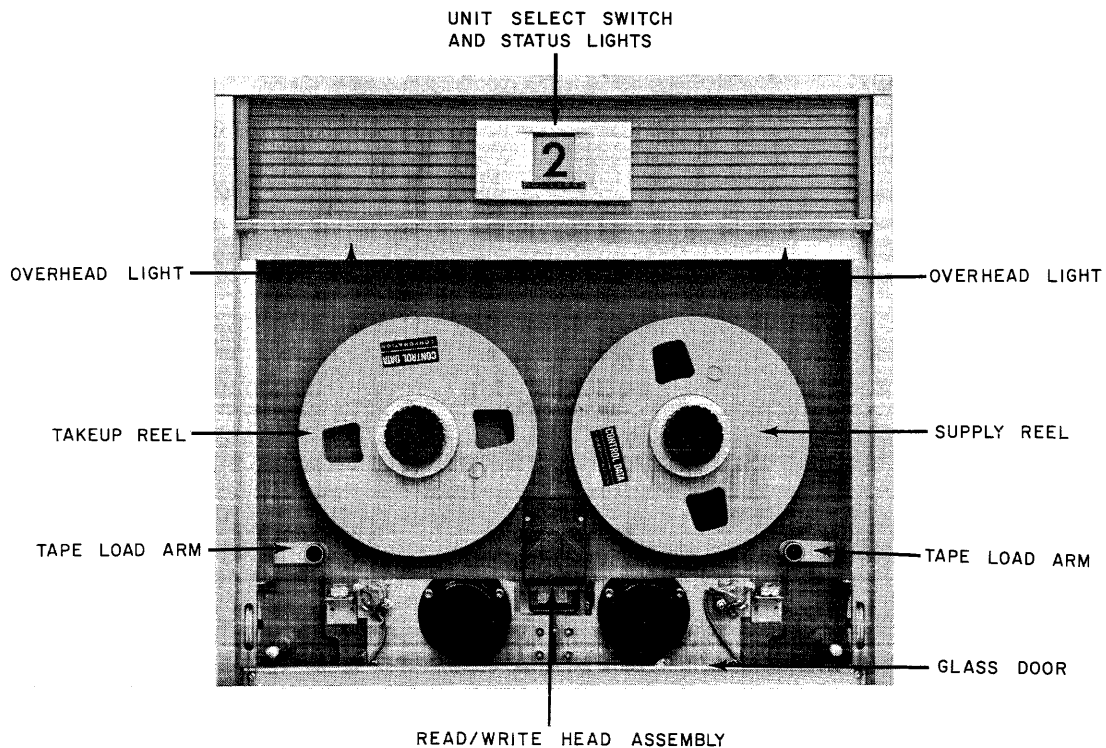

Figure Z-4. Tape Load and Unload Mechanics
- 1) Slide front door down to lowest position (Figure Z-4).